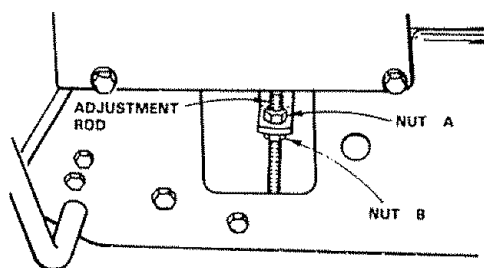

FIGURE 43
- If adjustment is required, snap out access cover on L.H. side of tractor above footrest (Fig. 43).